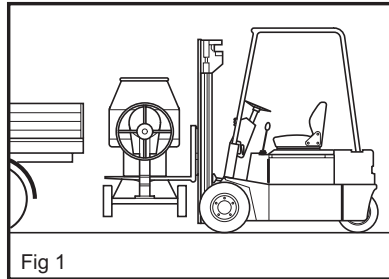
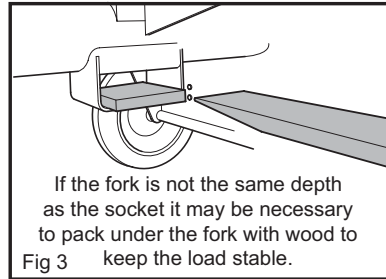

Fig 1
Fig 3
- For normal site to site transporting, the usual method of loading into a pick-up truck or trailer should be used. A fork socket (Fig 3) is located beneath the main frame to enable the mixer to be loaded using a forklift (Fig 1).